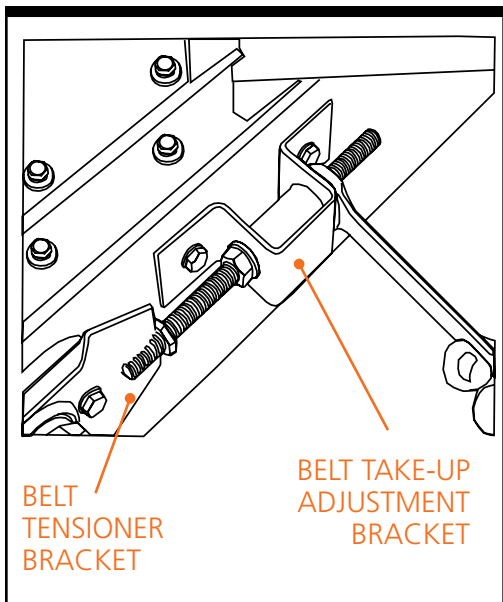

Figure 3-12. Tracking Adjustment of Belt Made to Belt Tensioner
Step 3–Tension Belt. Use the tensioner brackets on the base of the prefeeder (see Figure 3-12) to remove excessive slack in the belt before beginning tracking.
Step 4–Turn on Power and Adjust Tracking. Restore power to the prefeeder and turn it on, setting it to a slow speed to observe tracking of the belt. Run a new belt at least several complete revolutions before adjusting the tracking. If the belt pulls to one side or if the belt moves from side to side, adjust the tensioner bracket on the side to which the belt is pulling (see Figure 3-12.)
Step 5–Adjust Tracking Again. Run the prefeeder for at least five (5) minutes. Continue to adjust tracking until the prefeeder runs consistently without tracking problems.